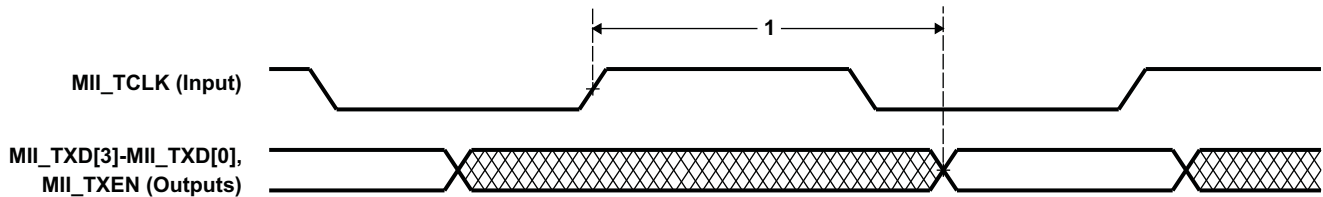

**Figure 6-49. EMAC Receive Interface Timing**
**Table 6-100. Timing Requirements for EMAC MII Receive 10/100 Mbit/s(1) (see Figure 6-49)**